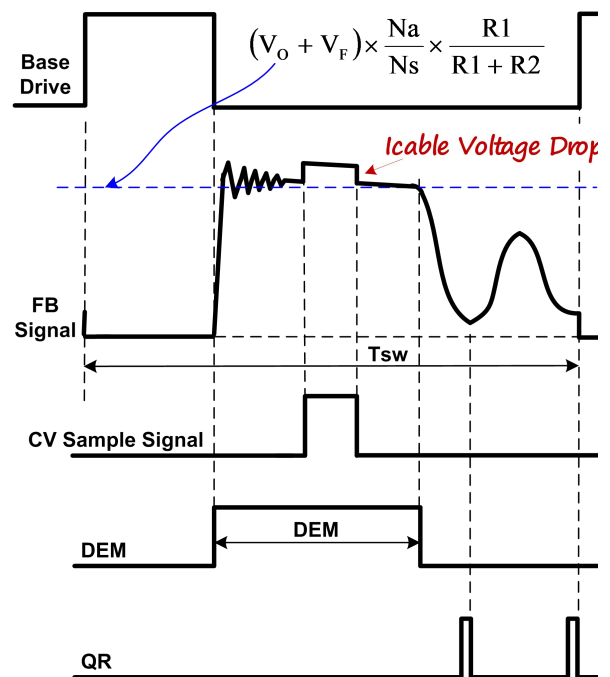

Fig.2
output voltage is sensed on the auxiliary winding during the transfer of transformer energy to the secondary. Fig.2 illustrates the timing waveform of CV sampling signal, demagnetization signal (DEM) and quasi-resonant (QR) trigger signal in DP3773E. When the CV sampling process is over, the internal sample/hold (S&H) circuit captures the error signal and amplifies it through the internal Error Amplifier (EA). The output of EA is sent to the Quasi Resonant PSR CV Modulator (QR-CVM) for CV regulation. A valley is selected to trigger new PWM cycle by the output of the QR-CVM block, which is determined by the load. The internal reference voltage for EA is trimmed to 2V with high accuracy.
During the CV sampling process, an internal variable current source is flowing to FB pin for Cable Drop Compensation (CDC). Thus, there is a step at FB pin in the transformer demagnetization process, as shown in Fig.2. Fig.2 also illustrates the equation for “demagnetization plateau”, where Vo and VF is the output voltage and diode forward voltage; R1 and R2 is the resistor divider connected from the auxiliary winding to FB Pin, Ns and Na are secondary winding and auxiliary winding